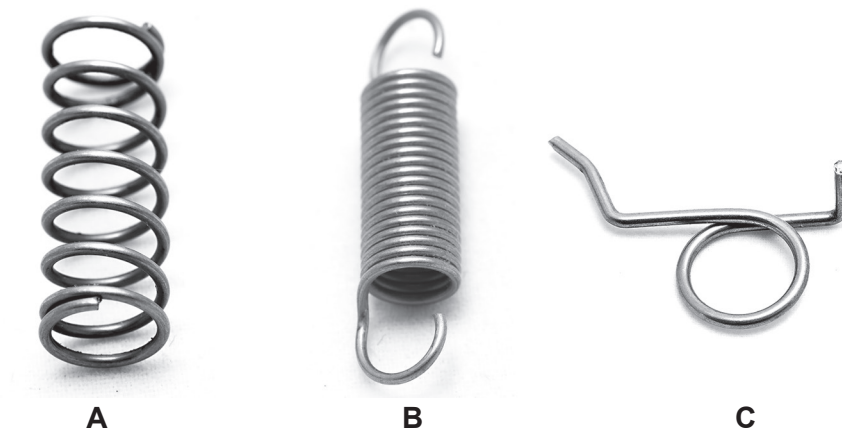

Fig. 2.1
- 2 Fig. 2.1 shows three types of spring.